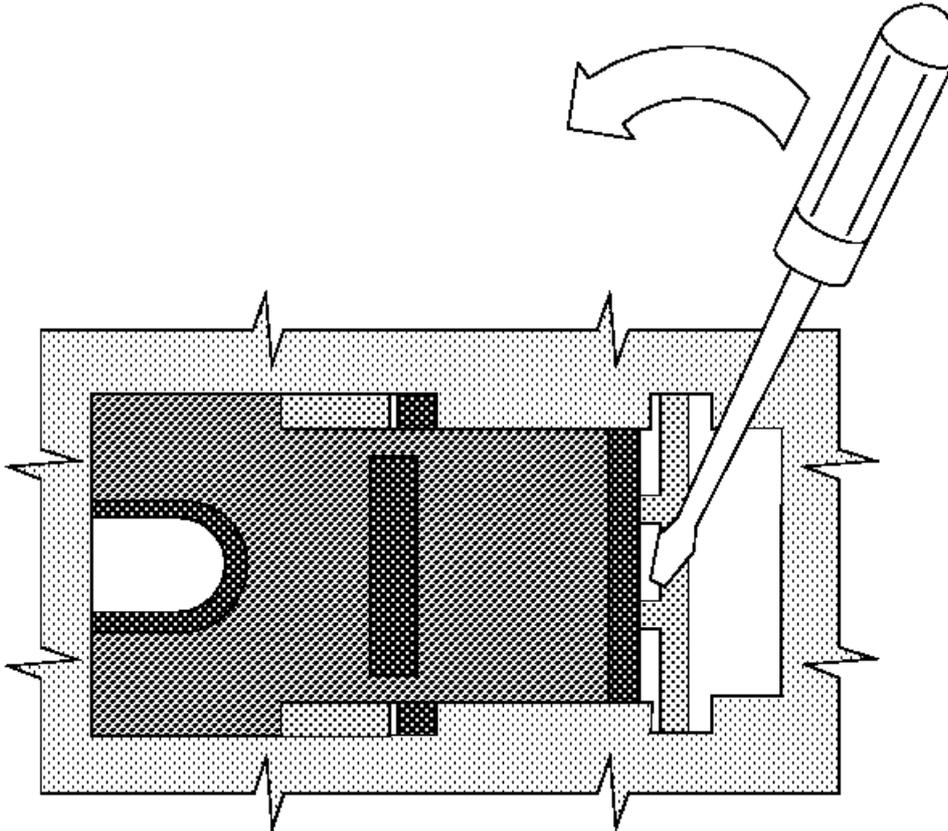

Figure 2-13. Removing and Replacing the Slide Latches
4. Gently pry and press at the point shown in Figure 2-13.